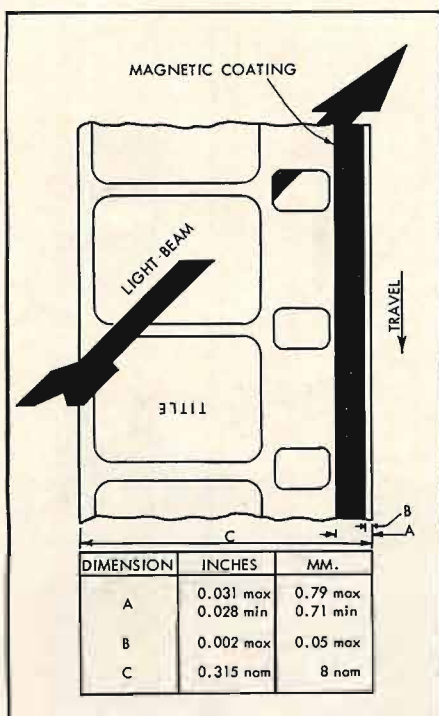

Fig. 5. Standard dimensions of an 8-mm sound film.
*Figure 5* shows the frequency response at a power output of about 1 watt into a load of 10.7 ohms. The level response with the absence of peaks over the whole frequency range from 10 to 100,000 cps indicates that the stabilizing circuits are very satisfactory with an output transformer having the characteristics described earlier. In consequence the amplifier is completely free of any tendency to parasitic oscillation under drive. The tendency for the response to fall below 10 cps is typical of a stabilized amplifier with feedback, and greatly assists low-frequency stability when a preamplifier is connected to the same plate supply.
Finally, machines have been developed in which the film proper carries a magnetic sound track. There is no doubt that these machines are especially simple in their operation, because the film contains both picture and sound. Thus a different running-off speed is out of question, because the device is a unit of picture and sound. However, at the present state of the art, the reproduction quality does not yet compare with the quality of a tape machine with a speed of  $3\frac{3}{4}$  ips. The reasons are these: With 8-mm films, the film speed, in case a projection of 16 pictures per second is chosen, is approximately  $2\frac{3}{8}$  ips. This speed is so slow and the width of the sound track is so limited that, in comparison with the separately running tape, certain losses of frequency response and dynamic range cannot be avoided. The film measurements are shown on Fig. 5. In addition, it is disadvantageous to be forced to place the magnetic sound strip on the comparatively stiff film, in comparison with the use of a flexible magnetic tape. It is a known fact that for the recording and reproduction of high frequencies, intimate contact between the sound carrier and the magnetic head plays a decisive part.
the preamp. A simple half-wave, voltage-doubler, selenium-rectifier type that proved satisfactory in one case was used. A full-wave circuit which will result in a lower ripple component is given in Fig. 5. This is highly recommended over the half-wave type.
To reduce hum to a minimum a 50-ohm hum-bucking potentiometer and 27 volts of bias were used in the heater circuit as shown in Fig. 5. The power supply was constructed on a small separate chassis and located as far as possible from the preamplifier chassis.